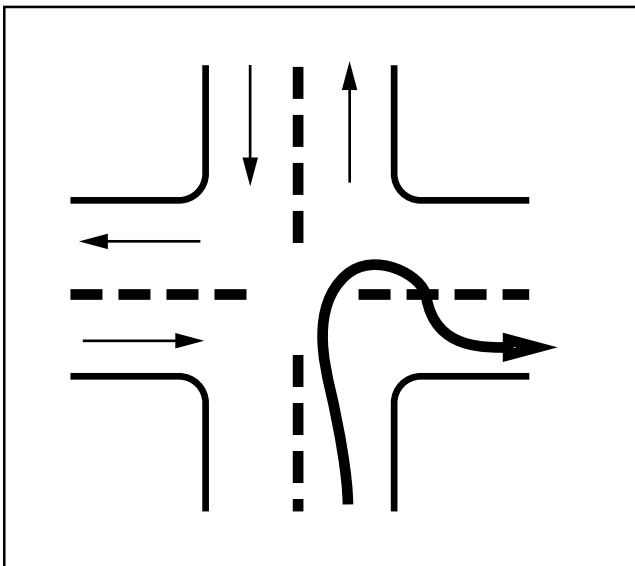

Figure 6-5
of your vehicle close to the curb. This will stop other drivers from passing you on the right. If you cannot complete the turn without entering another traffic lane, turn wide as you **complete the turn** (Figure 6-5). This is better than swinging wide to the left before starting the turn because it will keep other drivers from passing you on the right. If drivers pass you on the right, you might collide with them when you turn.
5. Why should you turn like it shows in Figure 6-5?